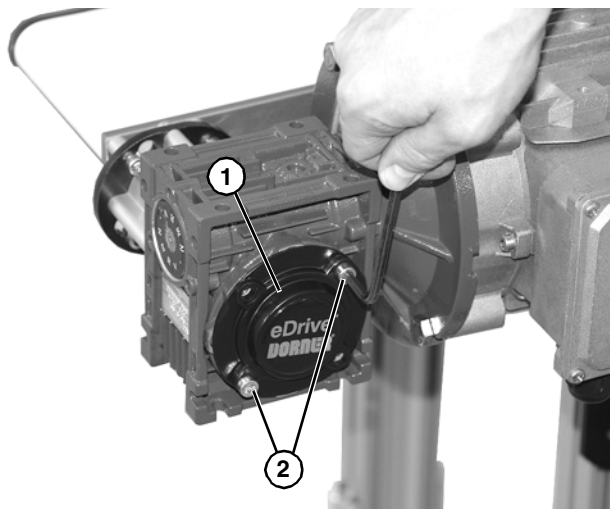

Figure 10
12. Install cover (**Figure 10, item 1**) and two M6x12 socket head screws (**Figure 10, item 2**). Tighten screws to 60 in-lb (7 Nm).